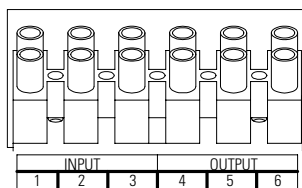

Figure 19. Terminal Block
6. Connect the input and ground wires to the input terminal block according to Figure 19 and Table 1.
7. Connect the output and ground wires to the output terminal block according to Figure 19 and Table 1.